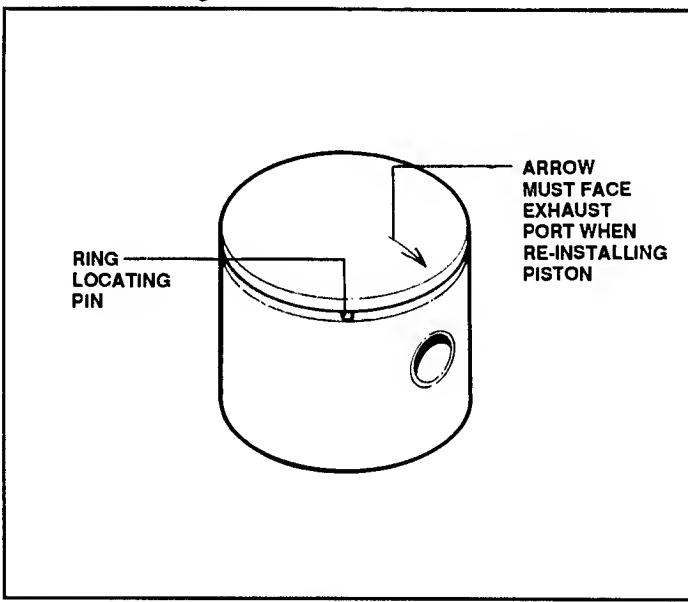

FIGURE 33
3. Be certain to include metal inserts when reinstalling shield. **NOTE:** Exhaust outlet on plastic shield allows for spark arrestor screen to be serviced without removal. Refer to Figure 33.
- The piston has a ring locating pin. Be certain that the ring end gap fits around the pin during assembly. The arrow on the piston dome **MUST** face the exhaust port. Lightly coat a new piston/cylinder with 32:1 fuel mixture oil prior to assembly. See Figure 33.